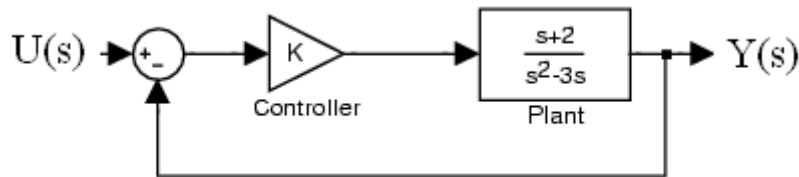

Figure 1. Simple proportional control system
Consider the system shown in figure 1 below.
- b. Suppose you use proportional feedback control as shown in figure 1. Explain *why* the scheme above is called proportional feedback. Explain *how* this scheme can be used to stabilize the system (hint: try and explain the *how* part mathematically).
- TASK 2:** Construct a model for the simple feedback system in figure 1 in Simulink. You should plot the step input and the response of the system on a single scope using the MUX block.